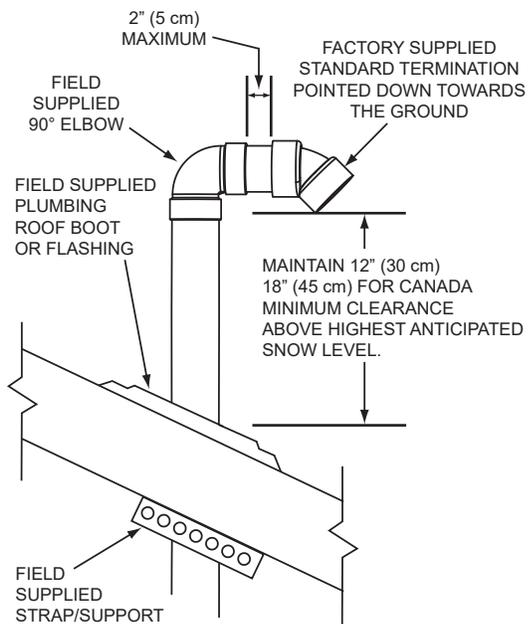
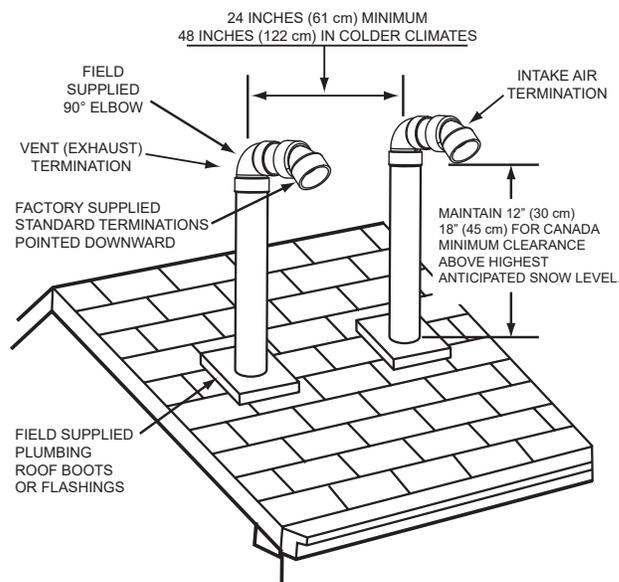
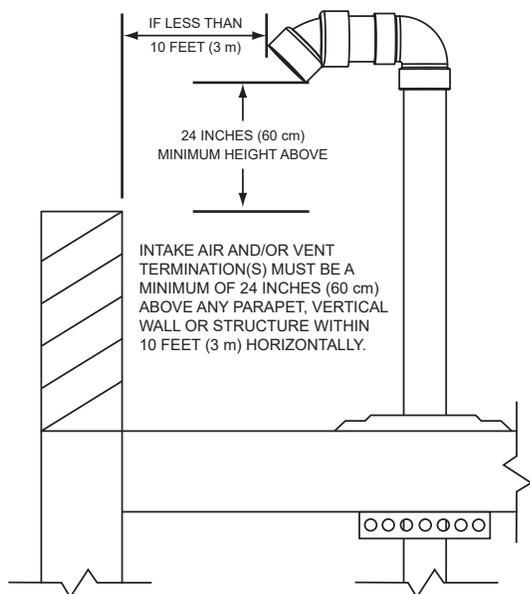

Figure 25. Vertical Termination(s) Installation: Intake Air and/or Vent (Exhaust)
Figure 27. Vertical Termination - Direct Vent: Standard Terminations
Figure 26. Vertical Termination Flat Roof Clearance - Intake Air and/or Vent (Exhaust)
2. If installing only the vent (exhaust) piping in a Power Vent configuration vertically through the roof; ensure that all exterior vertical clearance requirements shown in **Figure 25** (page 37) and **Figure 26** (page 37) are being maintained. These clearances and those cited by local and national codes must be maintained.
Note: On flat roof installations the vent termination must be a minimum of 24 inches (60 cm) above any parapet, vertical wall or structure within 10 feet (3 m) horizontally. See **Figure 26**.
3. If installing both intake air and vent piping in a Direct Vent configuration vertically through the roof; ensure that all exterior vertical clearance requirements shown in **Figure 25** (page 37) and **Figure 26** (page 37) are being maintained. These clearances and those cited by local and national codes must be maintained.
Note: On flat roof installations the intake air and the vent terminations must be a minimum of 24 inches (60 cm) above any parapet, vertical wall or structure within 10 feet (3 m) horizontally. See **Figure 26** (page 37).
- The vent termination must be oriented facing downward as shown in **Figure 25** and **Figure 26** (page 37).
- The bottom edge of vent termination must be a minimum of 12 inches (30 cm), 18 inches (45 cm) in Canada, above average or expected snow level as shown in **Figure 25** (page 37).
- The intake air and vent pipes must penetrate the same side of the roof as shown in **Figure 27** (page 37).
- The intake air and vent terminations must be oriented facing downward and in the same direction as shown in **Figure 27** (page 37).
- The intake air and vent terminations must have a minimum separation of 24" (61 cm) measured on center line as shown in **Figure 27** (page 37). In colder climates this separation should be increased to at least 48 inches (122 cm).
- The bottom edge of the intake air and vent terminations must be a minimum of 12 inches (30 cm), 18 inches (45 cm) in Canada, above the average or expected snow level as shown in **Figure 25** and **Figure 27** (page 37).
- The distance between the closest vent and intake air terminations must be a minimum of 24 inches (61 cm) as shown in **Figure 27** (page 37). In colder climates this separation should be increased to at least 48 inches (122 cm).
8. Suspend the pipe(s) through center of hole using field-supplied metal strapping or equivalent support materials as shown in **Figure 25** (page 37).
9. Slide a roof boot or equivalent flashing over the pipe and secure roof boot or equivalent flashing to roof and seal around the flashing as shown in **Figure 25**, **Figure 26** (page 37), and **Figure 27** (page 37).
10. Install the factory-supplied intake air and/or vent termination(s) using field-supplied pipe and one field-supplied 90° elbow as shown in **Figure 25** (page 37) The short section of pipe that connects between the field-supplied 90° elbow and the factory-supplied termination must not be excessive in length. The exposed portion of this pipe shall be no more than 2 inches (5 cm).